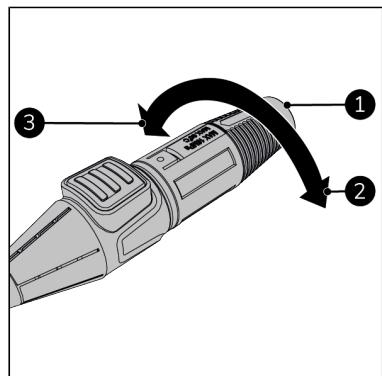

Figure 34.
(Figure 34, pos. 1) to change the jet angle:
- for a smaller (more powerful jet) turn it clockwise (Figure 34, pos. 2).
- for a bigger (less powerful jet) turn it anti-clockwise (Figure 34, pos. 3).